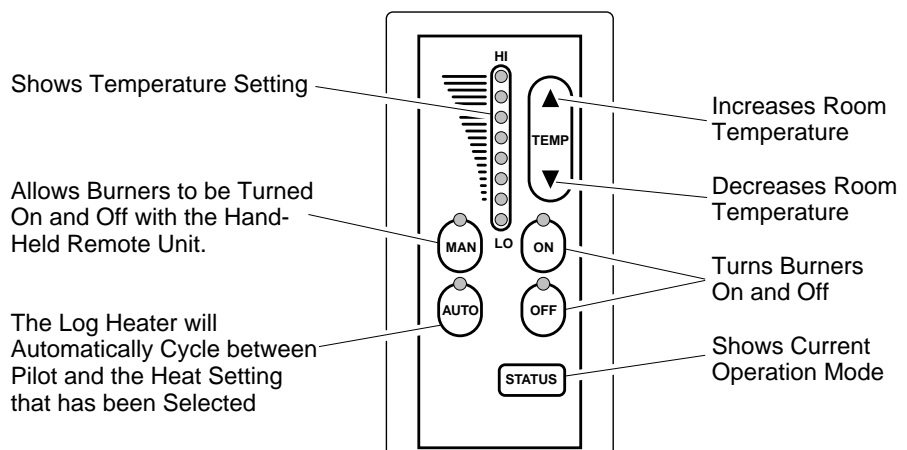

Figure 23 - Thermostat Hand-Held Remote Control Unit Selections (GHRCT Only)
2. Select the MAN (manual) or AUTO button on the hand-held remote control unit (see Figure 23).